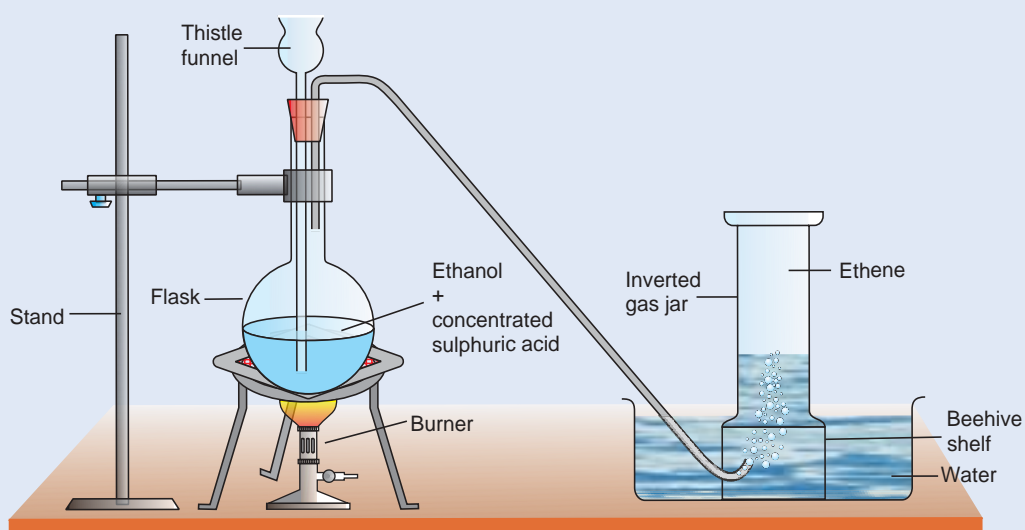

Figure 1.6 Preparation of Ethene.
1. Arrange the set-up as shown in Figure 1.6